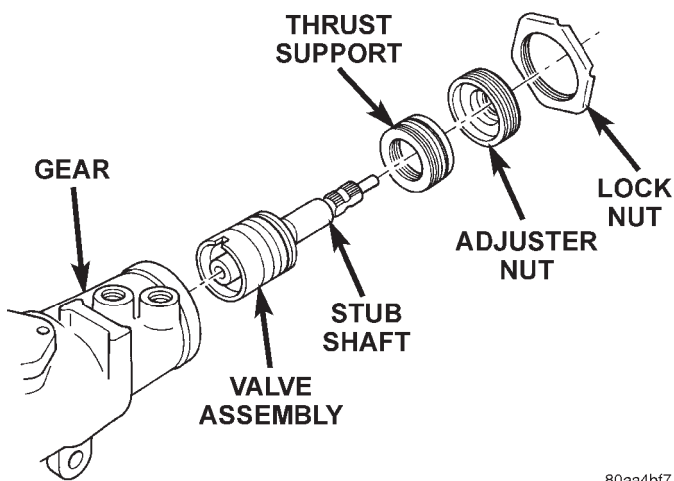

Fig. 13 Valve Assembly With Stub Shaft
(4) Pull stub shaft and valve assembly from the housing (Fig. 13).